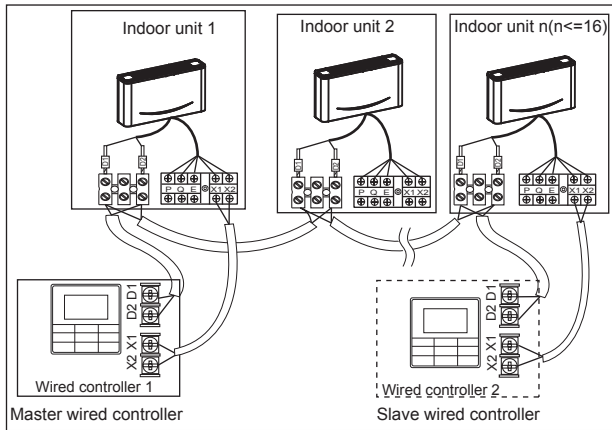

Figure 6.8
- Use 1 wired controller to control multiple indoor units or 2 wired controllers (one master and one slave controller) to control multiple indoor units (see Figure 6.8);